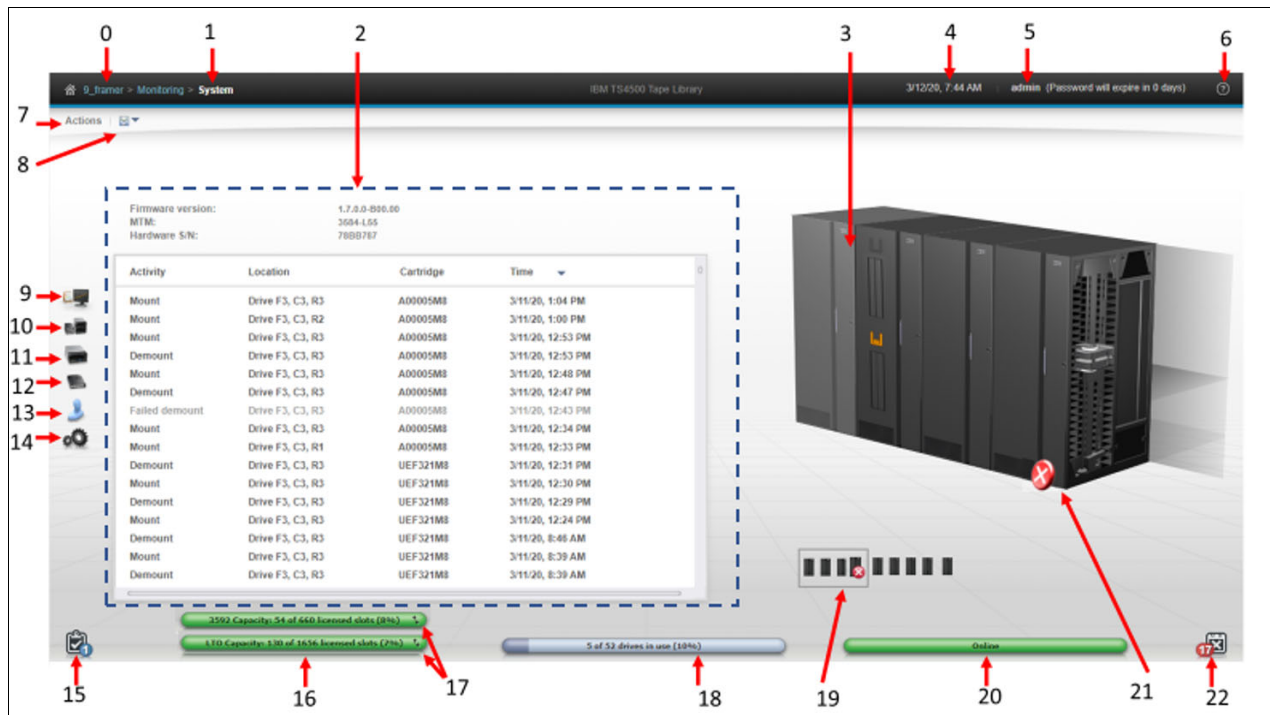

Figure 4-9 System summary display
After login the system summary window is shown, as in Figure 4-9.
For more information about the Management Interface (MI) and the available functions, use the question mark (?) icon or **Help**, which is number 6 in Figure 4-9.
Table 4-3 lists all of the fields that are shown in the window. The numbers in Table 4-3 refer to the numbers that are shown in Figure 4-9 on page 205.